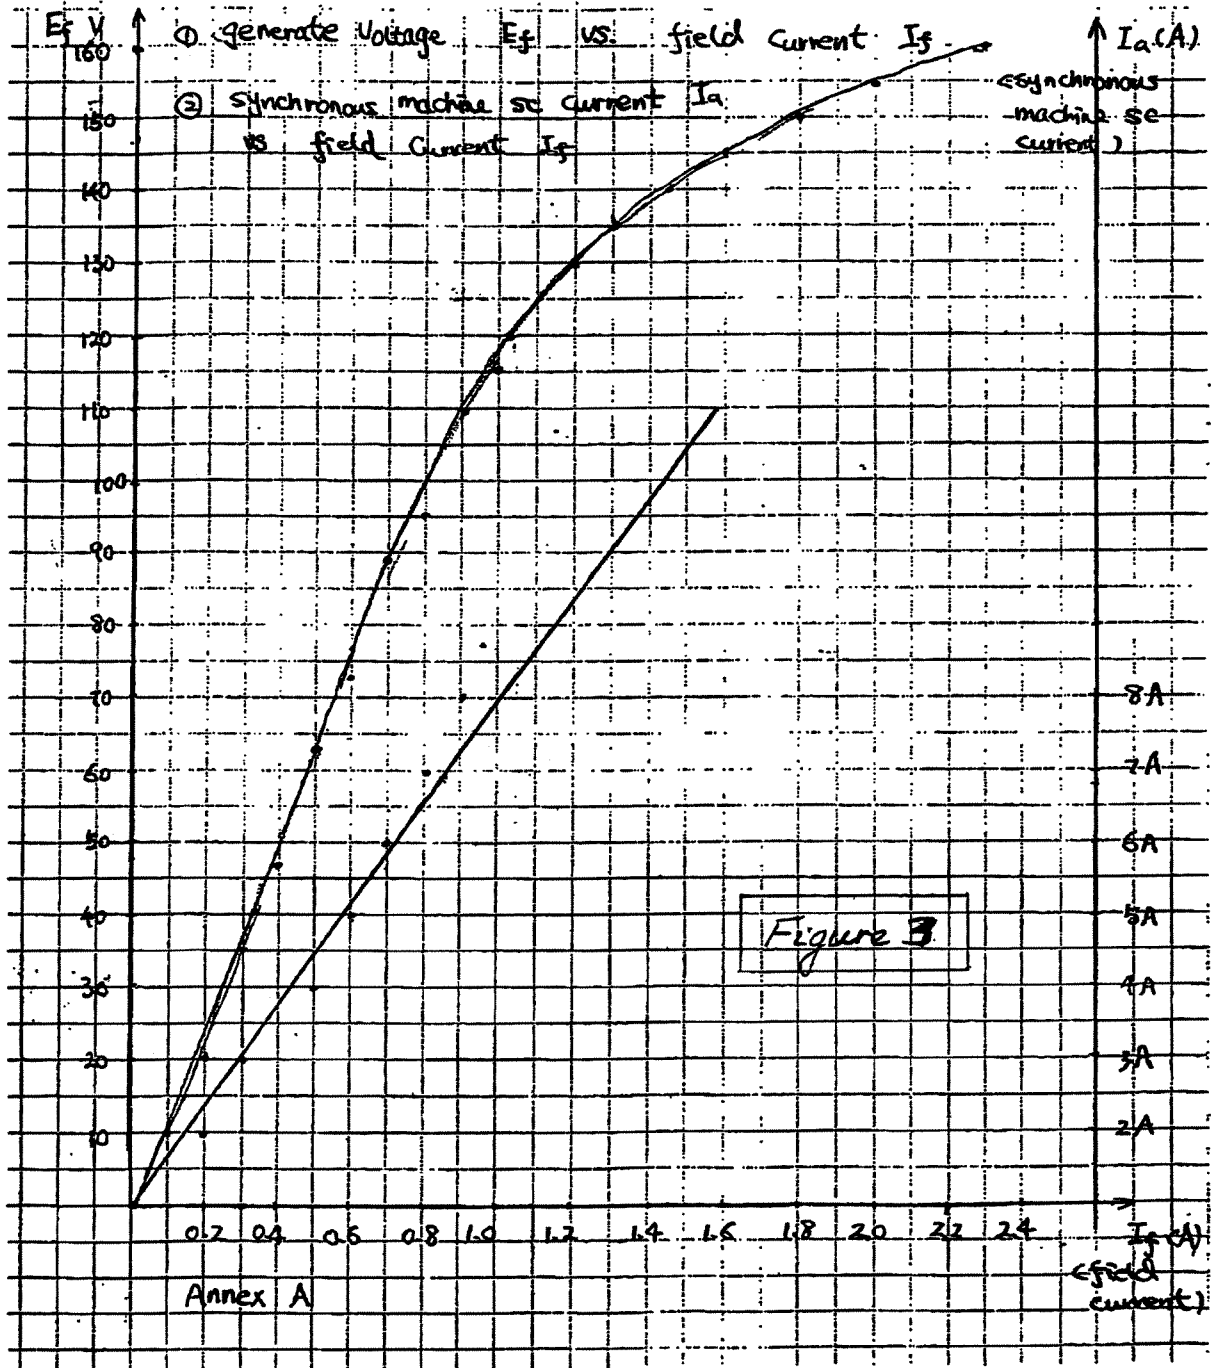

Figure 3
- b. A no-load test and a short-circuit test performed in the lab on a three-phase synchronous machine rated 208 V (line-to-line), 6.95 A, 2500 kVA yielded the open-circuit characteristic (OCC) and short-circuit characteristic (SCC) shown in Figure 3 (next page).